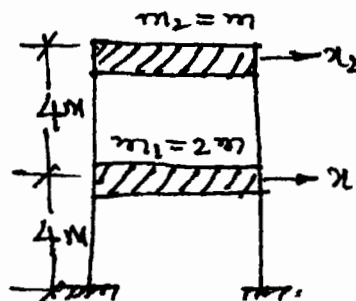

Fig.Q4
4. Determine the eigen values for the MDOF system shown in Fig.Q4. Given $EI = 20000 \text{ kN/m}^2$ $m = 12800 \text{ kg}$. (20 Marks)